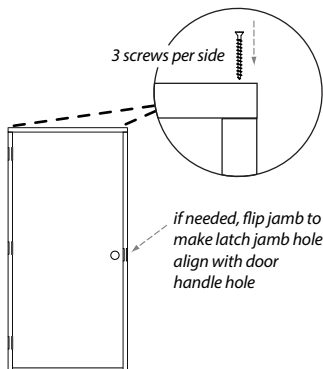

Figure 3
- 3) After laying door flat on floor, attach head jamb and then strike jamb using provided screws (figure 3). **Careful not to over tighten so as to avoid splitting the wood.**